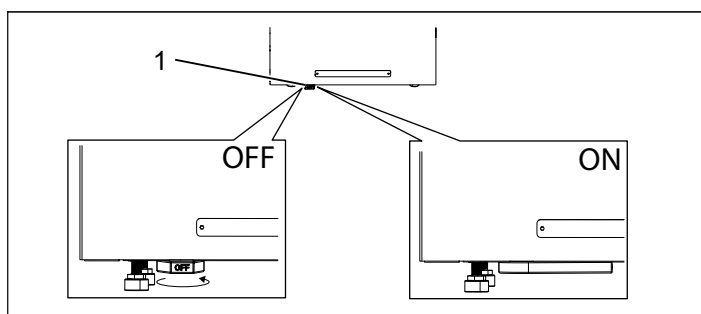

Figure 21 ON / OFF
2. Switch on the heater, use the lever, see figure 21